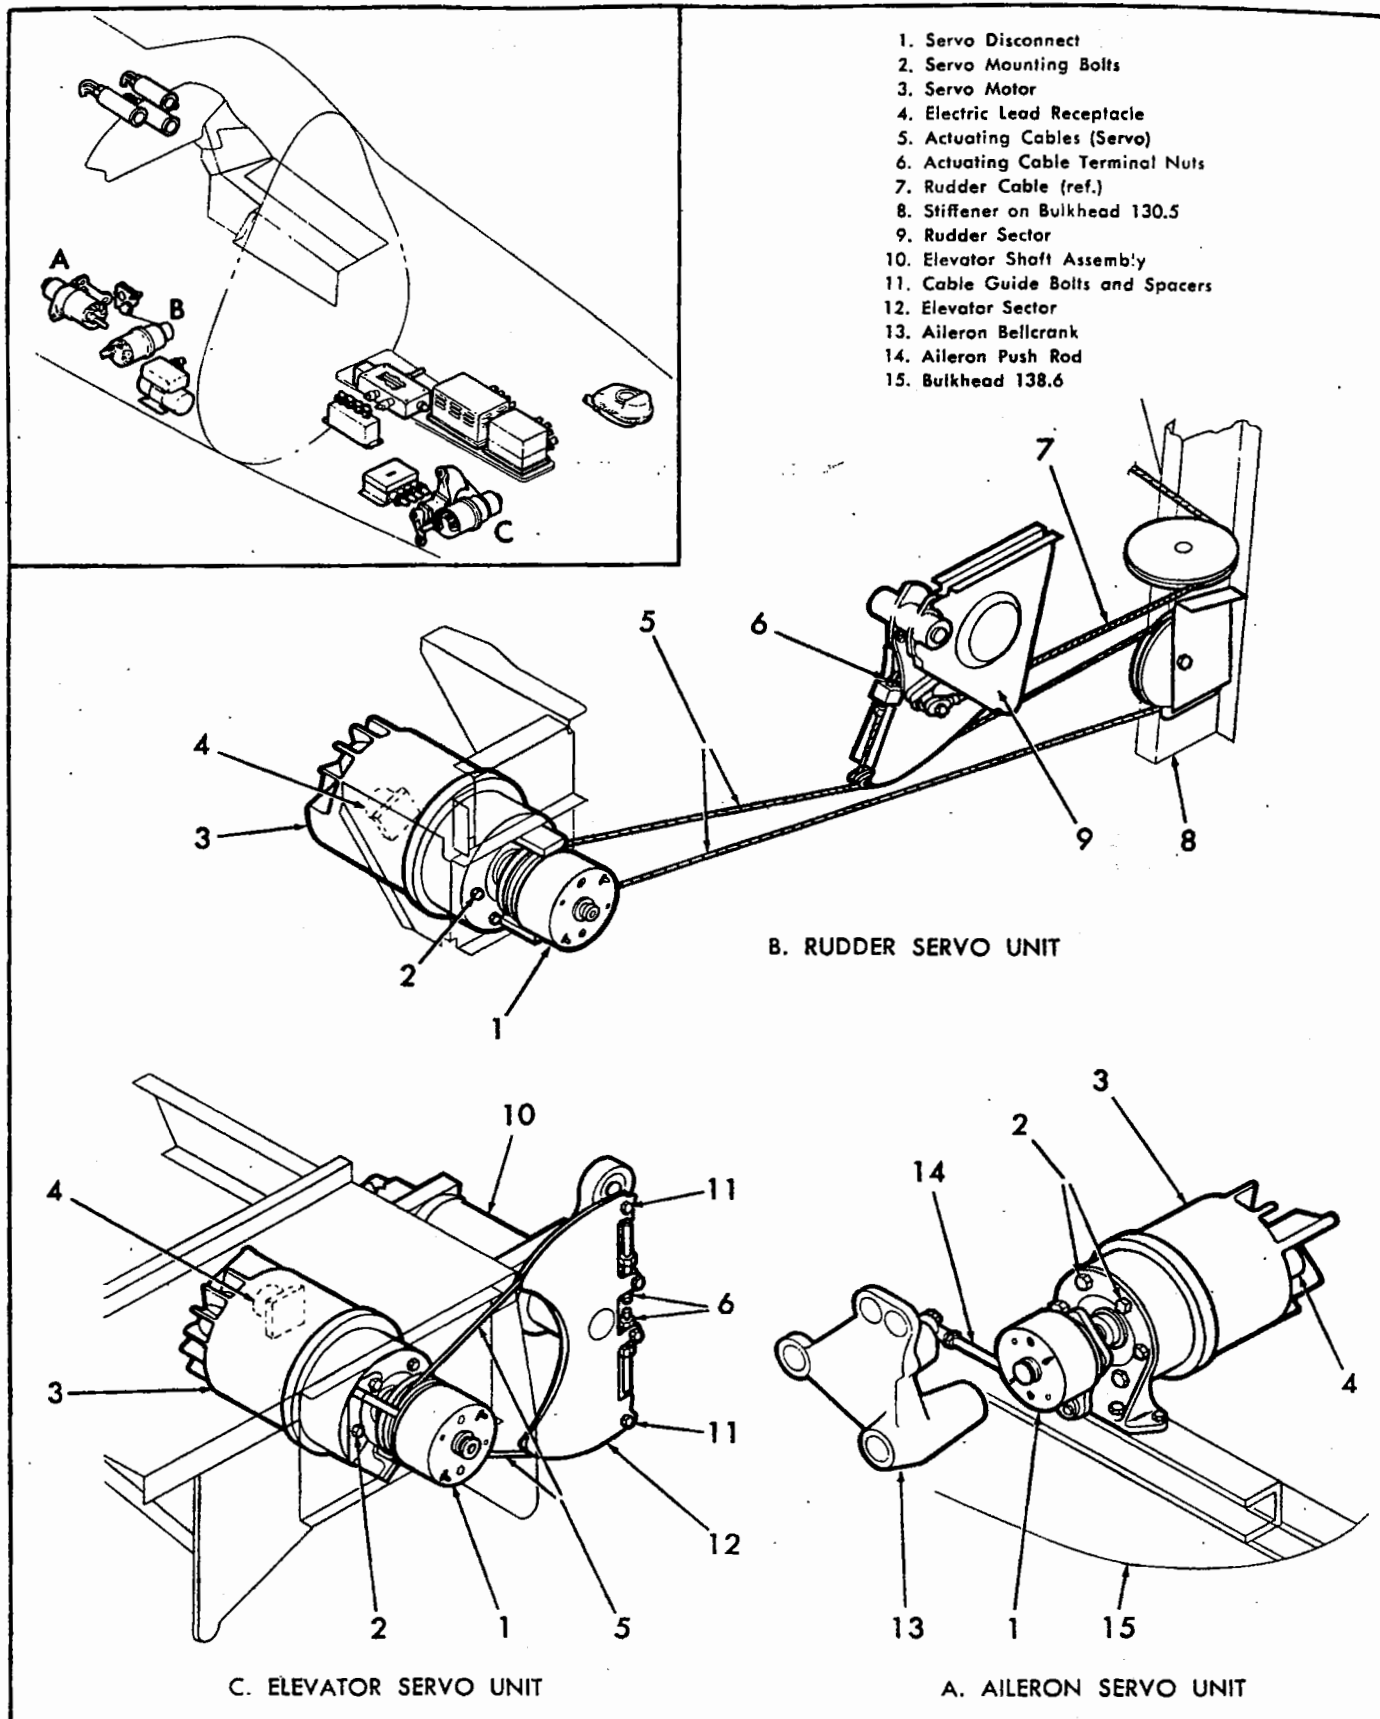
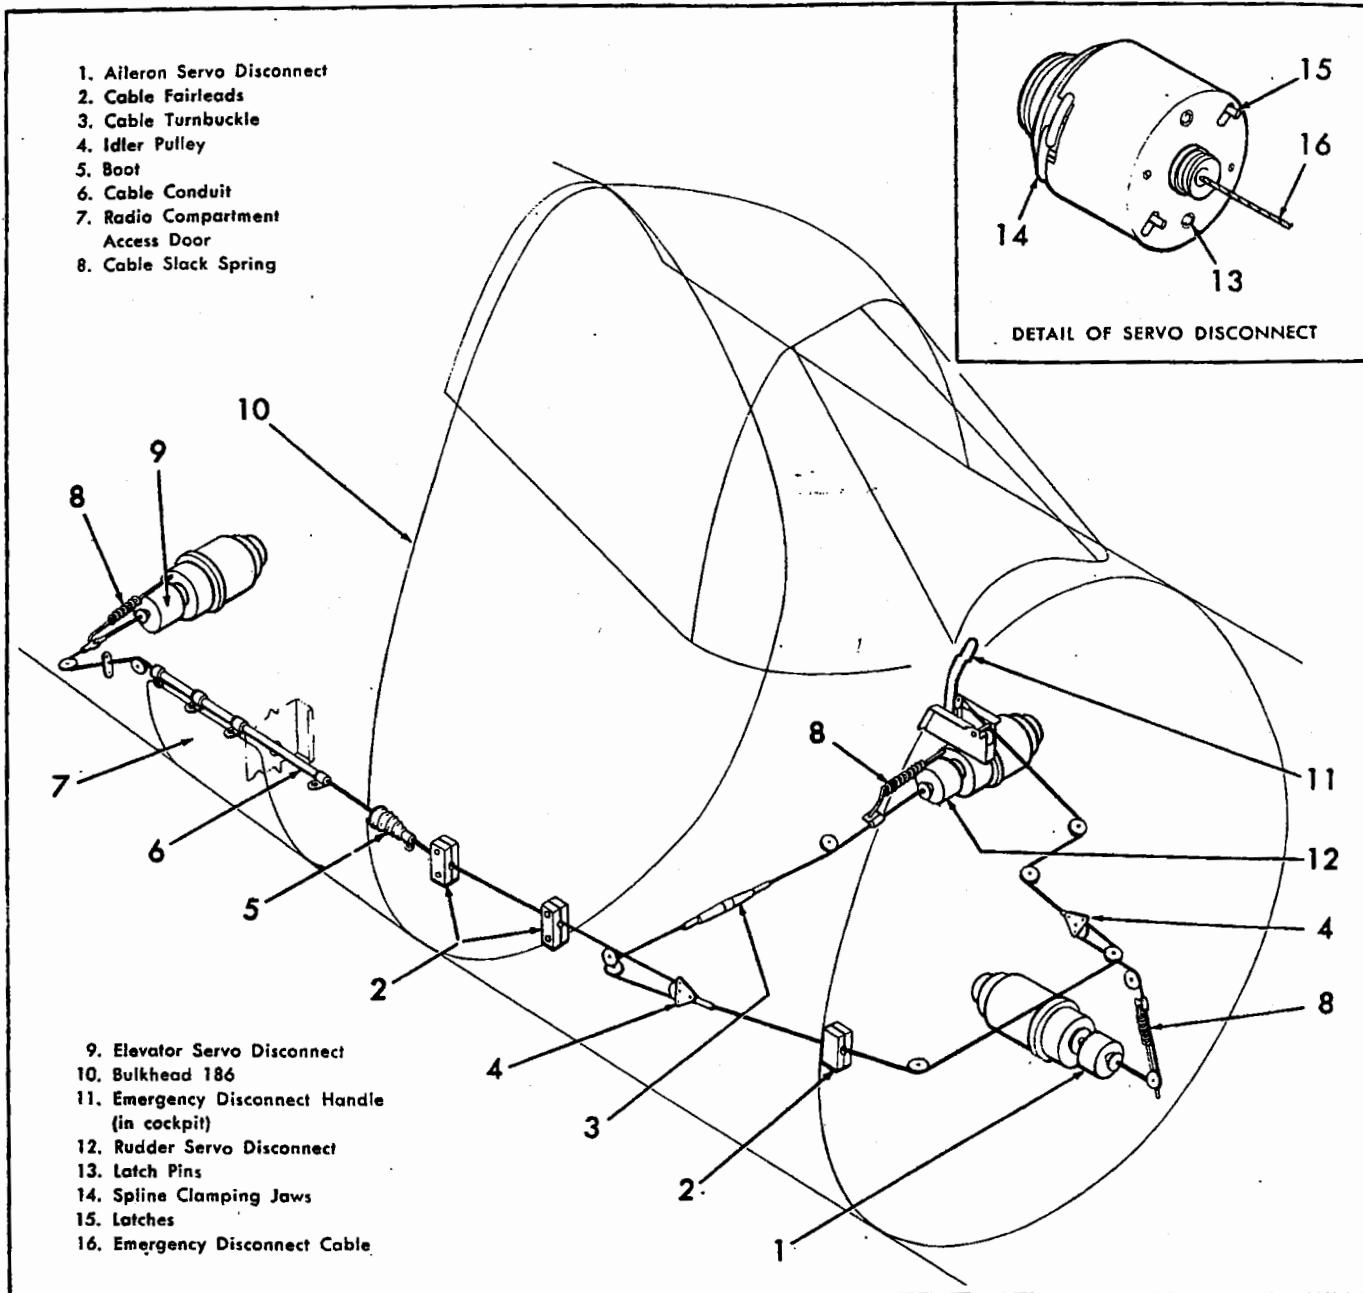

Figure A-7. Auto Pilot Servo Installation.
Figure A-8. Auto Pilot Emergency Disconnect Cable System.
A-54. DESCRIPTION. (See figures A-7 and A-8.) The aileron servo installation consists of a No. 1 Servo (R88-S-150), a No. 1 Servo Disconnect (R88-D-334) and an arm and push rod assembly connected to the servo disconnect, which actuates the aileron bellcrank (see figure A-20). This installation is located approximately station 140, under the cockpit floor and just to the left of the aileron bellcrank. Access to the servo may be gained through the lower cockpit access door. The servo unit is essentially a two-phase induction motor and drive shaft controlled by the aileron channel in the servo amplifier. The servo disconnect is mounted on the servo motor drive shaft and turns with the shaft. The shaft turns clockwise or counterclockwise depending on whether the aileron demands left aileron down or right aileron down. As the servo disconnect turns, it actuates the arm and push rod assembly connected to the aileron bellcrank (see figure A-7). The servo motor consists of a two-phase stator and squirrel cage rotor supported in ball bearings. One phase of the induction motor is constantly excited at a frequency of 400 cycles, 115 volts. Signals sent from the bank-trim autosyn are amplified to provide power for the second, or variable phase of the motor. Excitation of the variable phase, also at a frequency of 400 cycles, varies from 0 to 110 volts. A damper rotor, mounted on a common shaft with the induction motor, prevents hunting or oscillation about a null point. A follow-up autosyn is linked by a gear train to the induction motor. The signals from the follow-up autosyn are superimposed on the signals from the bank-trim autosyn in order to immediately check movement of the ailerons as soon as an appropriate auto pilot correction has been made. The servo also incorporates a solenoid operated clutch mechanism which engages or disengages the servo induction motor from the servo power shaft. The clutch is held in when the solenoid is energized; thrown out by a spring when the power to the solenoid is cut. This arrangement permits the auto pilot to be electrically disengaged from the control surfaces with, however, the servo motors still in operation. The clutch solenoid is controlled by the auto pilot clutch switch in the cockpit (see figure A-2 and paragraph A-7). For wiring diagram information on the aileron servo motor see figure A-9.
A-56. DESCRIPTION. The aileron servo disconnect is mounted on the servo motor drive shaft and provides a means of mechanically disconnecting the auto pilot from the aileron controls in case of emergency. See figure A-8 and paragraph A-72 for information on the auto pilot emergency disconnect cable system. The disconnect consists essentially of a bearing and hub assembly. The hub assembly is internally splined to fit the external spline of the servo motor drive shaft. The bearing assembly is free to idle on the hub assembly when the unit is in the disconnect position, but the two assemblies are locked together when the units are engaged by two drive pins. The drive pins are pulled out by a cable, thus disconnecting the hub and bearing assembly when the emergency disconnect handle in the cockpit is actuated (see figure A-8, item 11). The idler bearing mounts the arm which actuates the push rod connected to the aileron bellcrank (see figure A-7). With this arrangement, the auto pilot servo motor may be turning the hub assembly of the servo disconnect while the disconnected idler bearing with the aileron bellcrank pushrod remains stationary. In this case, the pilot can manually operate the controls with the idler bearing riding with them and causing a minimum of friction. When the servo disconnect unit has been disengaged by operation of the emergency cable system, it becomes necessary to re-engage the unit manually (see figure A-8) by pushing outwards on one of the latches (15) on the face of the servo disconnect, then rotating the disconnect idler bearing until the drive pins partially fall into place with an audible "click" and engage the idler bearing assembly with the internally splined hub. The second latch (15) must now be pushed outwards to completely seat the drive pins. When the pins are seated they will be flush with the face of the servo disconnect and insure positive engagement of the idler bearing with the internally splined hub. For information on the emergency disconnect cable system see figure A-8 and paragraph A-72. The servo disconnect is also provided with a manually operated spline type clamping jaw (see figure A-8, item 14) which is spring-loaded in the closed position. The entire servo disconnect assembly can be pulled off the servo motor drive shaft merely by squeezing the jaws open and freeing the disconnect from the servo drive shaft spline. Normally, the jaws engage with a groove around the circumference of the spline.
A-57. REMOVING AILERON SERVO MOTOR. Make certain that battery switch is "OFF," (see figure A-7) and proceed as follows:
- a. Disconnect electrical lead (4) to servo motor.
- c. Depress jaws (see figure A-8, item 14) on servo disconnect and at same time pull servo motor aft till its spline shaft is disengaged from internal spline in servo disconnect.
A-58. REMOVING AILERON SERVO DISCONNECT. Due to limited clearance it is necessary first to remove the servo motor before removing the servo disconnect. Observe the servo motor removing procedure in paragraph A-57. To remove the servo disconnect (after removal of servo motor has been accomplished) (see figure A-8) proceed as follows:
A-62. DESCRIPTION. (See figure A-7.) The rudder servo installation consists of a No. 1 Servo (R88-S-150), a No. 1 Servo Disconnect (R88-D-334) incorporating a pulley and actuating cable assembly and the rudder sector which actuates the rudder pedals. The rudder sector is secured to an arm on the left hand rudder pedal. This installation is located at approximately station 160,
A-63. REMOVING RUDDER SERVO MOTOR. Make certain battery switch is "OFF," (see figure A-7) and proceed as follows:
a. Loosen up two actuating cables (5) by loosening cable terminal nuts (6) on rudder sector. The outboard cable terminal nut is accessible through a lightening hole in the rudder pedal arm assembly.
b. Squeeze servo disconnect jaws (see figure A-8, item 14) out and slide servo disconnect off servo motor spline.
c. Disconnect electric lead (4) to servo motor.
d. Break safety-wire and remove six bolts (2) which secure rudder servo motor to mounting bracket.
A-64. REMOVING RUDDER SERVO DISCONNECT. To remove the rudder servo disconnect separately from the airplane see figure A-8 and proceed as follows:
a. Unhook servo disconnect cable slack spring (8).
b. Detach servo emergency disconnect cable at terminal end from turnbuckle (3) located above and just aft of lower cockpit access opening.
c. Remove fairlead pulley located between turnbuckle (3) and servo disconnect (12).
e. (Refer to figure A-7.) Disconnect two servo actuating cables (5) from rudder pedal sector assembly. Remove cable guide bolts and spacers at each end of sector and remove cable terminal nuts (6) which secure cables to sector.
f. Squeeze open disengaging jaws (see figure A-8, item 14) of servo disconnect and slide servo disconnect off servo motor spline. Servo disconnect is removed with rudder actuating cables and emergency disconnect cable as one unit.
A-67. DESCRIPTION. (See figure A-7.) The elevator servo installation consists of a No. 1 Servo (R88-S-150), a No. 1 Servo Disconnect (R88-D-334) incorporating a
pulley and actuating cable assembly and the elevator sector which actuates the elevator shaft assembly. This installation is located at approximately station 230 on the centerline of the ship. The servo motor is mounted on the right hand vertical face of the altimeter transmitter-receiver shelf. Access to the elevator servo installation may be gained through the radio compartment access door. For a complete description of the servo motor and servo disconnect units see aileron servo installation paragraph A-54, figure A-7 and figure A-8. The elevator servo installation differs from the aileron in that the aileron servo disconnect has an arm and pushrod connected to the aileron bellcrank, whereas the elevator servo disconnect has a pulley and actuating cable assembly connected to a sector which in turn is bolted to the elevator shaft (see figure A-23 and figure A-7). The actuating cables are adjusted for 45 ± 5 pounds tension, by tightening or loosening the cable terminal nuts on the elevator sector (see figure A-7, item 6). For wiring diagram information on the elevator servo see figure A-9.
A-68. REMOVING ELEVATOR SERVO MOTOR. Make certain that battery switch is "OFF," see figure A-7, and proceed as follows:
a. Work through radio compartment access door and disconnect electrical lead (4) to servo motor. The electric lead receptacle is located on left hand end of servo, aft of and just below amplifier adapter.
b. Loosen servo actuating cables (5) by loosening cable terminal units (6) which secure cables to elevator sector (12).
c. Disconnect slack spring (see figure A-8, item 8) from servo disconnect cable by unhooking spring from flange secured by servo motor mounting bolts.
d. Squeeze the servo disconnect disengaging jaws (see figure A-8, item 14) and slide disconnect off servo motor spline.
e. Break safety-wire and remove six bolts (2) which secure servo motor to right hand vertical face of support which mounts altimeter transmitter-receiver. Make certain when removing bolts to note the correct position of the slack spring anchor flange and actuating cable guides (11) secured by mounting bolts.
a. Detach disconnect slack spring (see figure A-8, item 8) from anchor flange.
c. Remove four cable guide bolts and spacers (see figure A-7, item 11) from elevator sector.
d. Loosen cable terminal nuts (see figure A-7, item 6) and free servo actuating cables from elevator sector.
e. Squeeze disengaging jaws (see figure A-8, item 14) out and slide servo disconnect off servo motor spline. Servo disconnect and actuating cables are removed as one unit.